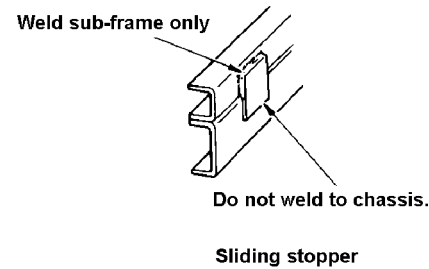
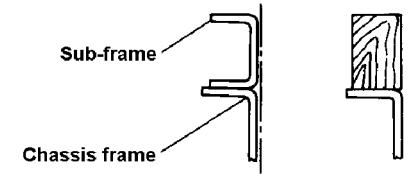

Fig. 2
Fig. 3
- (1) The lower sub-frame flange must be mounted flush with the upper flange of the chassis frame. Do not mount the sub-frame at an angle to the chassis frame. Connect the right and left sub-frame to each other by crossmembers, bolsters, or the body proper. Sliding stoppers should be attached to the sub-frame if necessary (Fig.2)
- (2) The sub-frame channel openings should face inward toward the vehicle longitudinal center line.
- (3) Align the channel's web surface with that of the chassis frame (Fig.3)